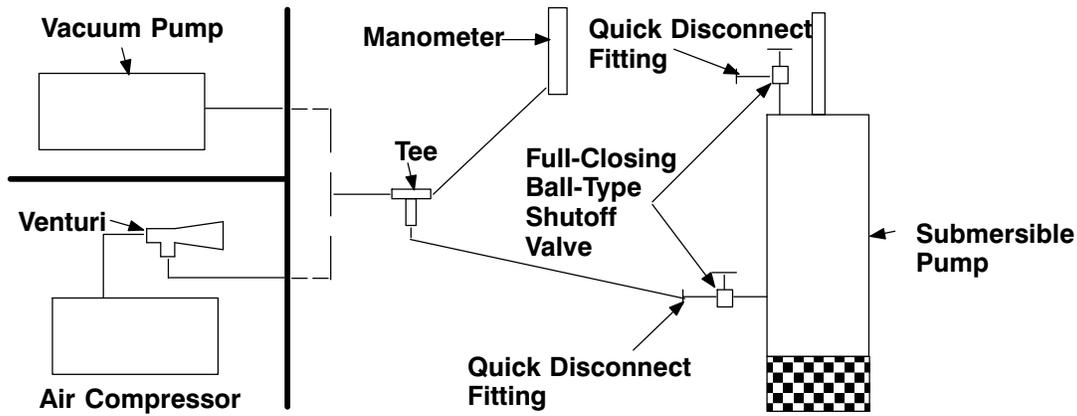

Figure C-5. Vacuum Test System
See Figure C-5 and connect the vacuum pump or compressor/venturi system directly to the pump at the hole for the seal cavity drain plug (47).
Connect the vacuum pump or compressor/venturi system to the pump as shown in Figure C-5.